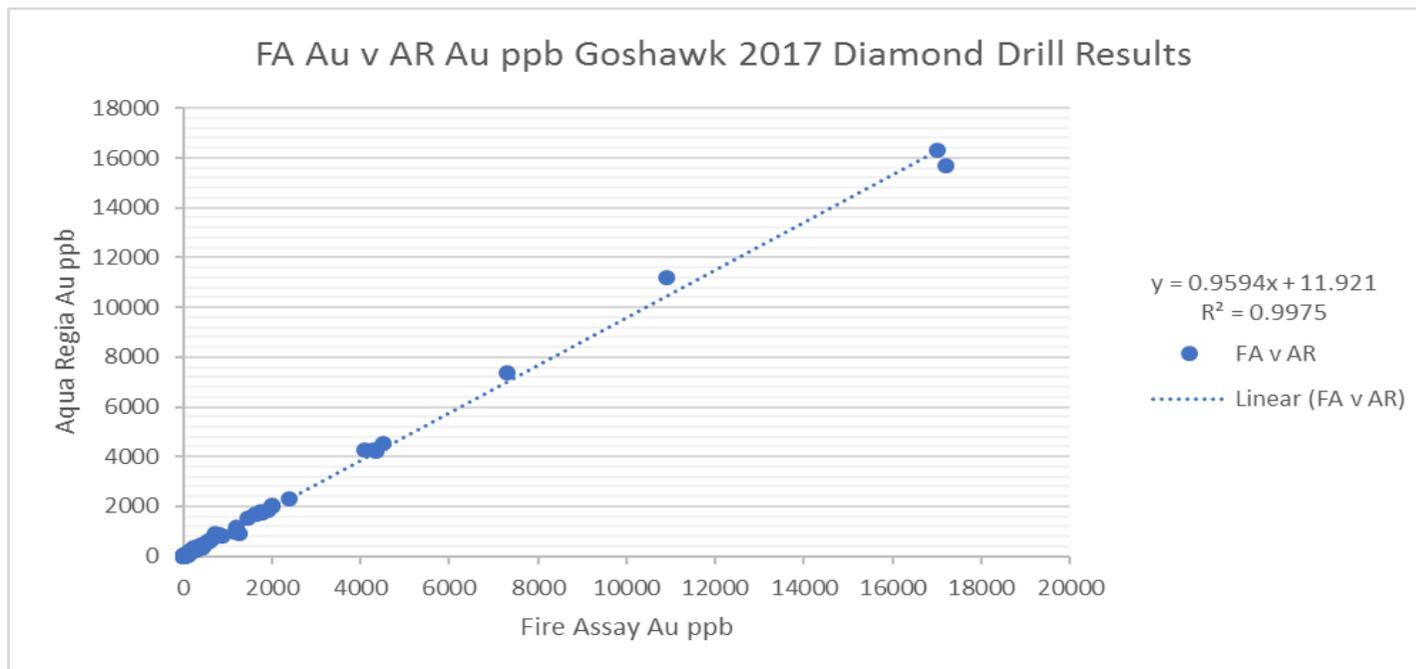

Figure 4: Fire Assay vs Aqua regia (Gold ppb) for Diamond drill results
3. Comparison of Diamond core results to previous AC/RC drilling results: Given the small number of diamond core holes (6) and the loss of core in relevant sections of some holes, there is insufficient data to make a robust statistical comparison between diamond drilling and AC/RC results in adjacent or nearby holes. In some diamond holes (*e.g.* Hole 1), grades obtained from the diamond drilling are 4 times higher than adjacent RC holes over significant 10m long intervals (*e.g.* 0.5 g/t from RC drilling came back as 2.4 g/t over 10m interval in adjacent diamond hole). In other diamond holes, grades were lower than adjacent AC holes. More important than these swings and roundabouts is the continued presence of high-grade intersections in every drill program (irrespective of the methodology used), and the geological continuity of mineralisation.
The diamond core was assayed using both Aqua Regia (AR) and Fire Assay (FA) methodologies. Figure 4 compares the Aqua Regia gold results to the Fire Assay gold results and shows near perfect correlation and consistency between the two alternative measures.